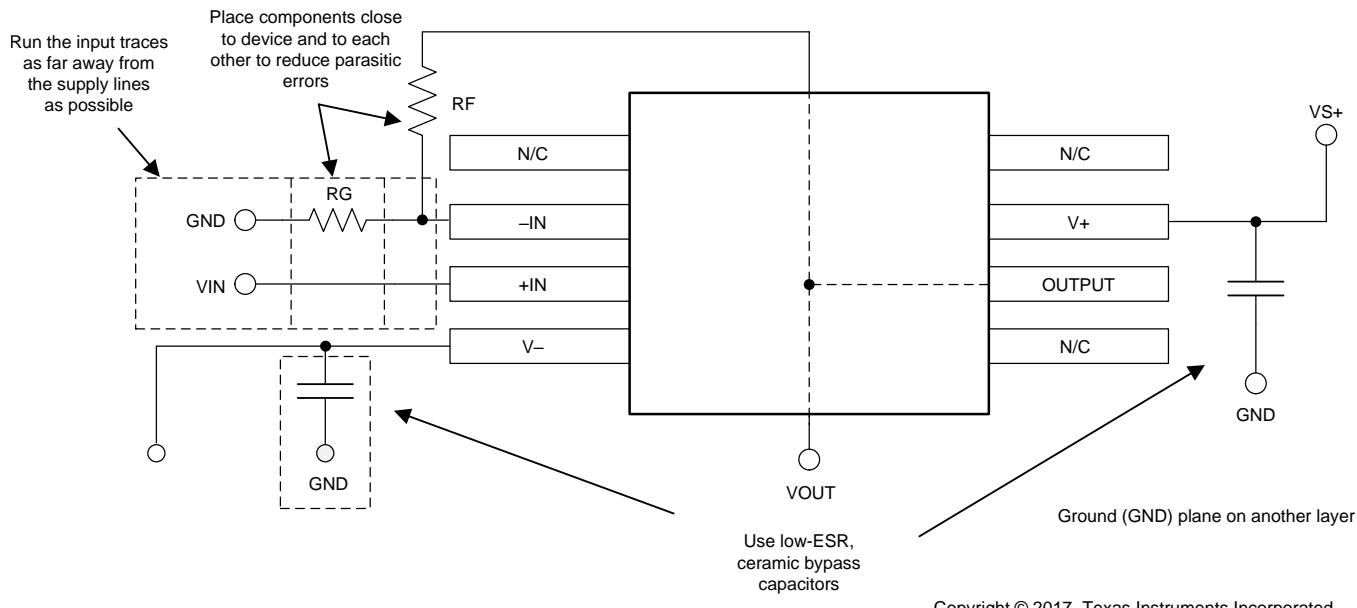

Figure 66. Operational Amplifier Board Layout for Noninverting Configuration
- Place the external components as close to the device as possible. As illustrated in Figure 66, keeping RF and RG close to the inverting input minimizes parasitic capacitance.